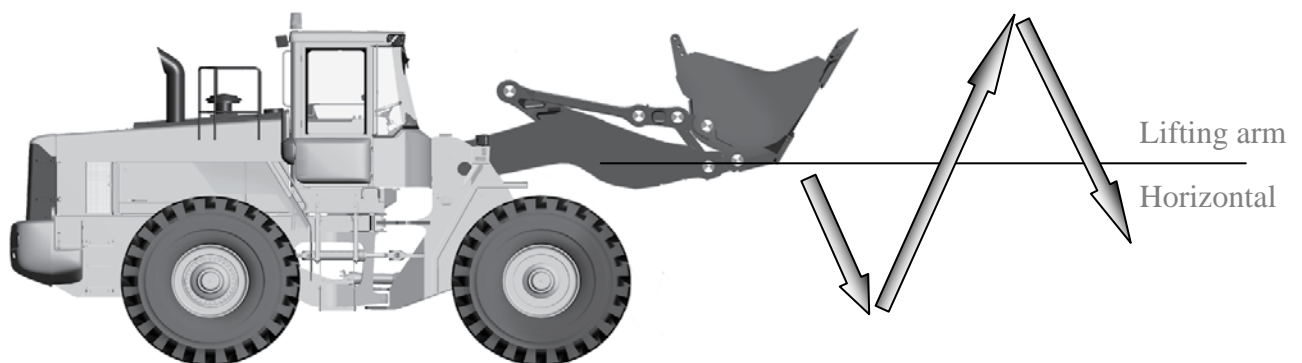

Figure 3-11 Operation of the lifting arms during zeropoint adjustment.
5. Operate the lifting arm at a slow and even speed according to the instructions on the display: *Lower – Lift – Lower*, refer Figure 3-11.